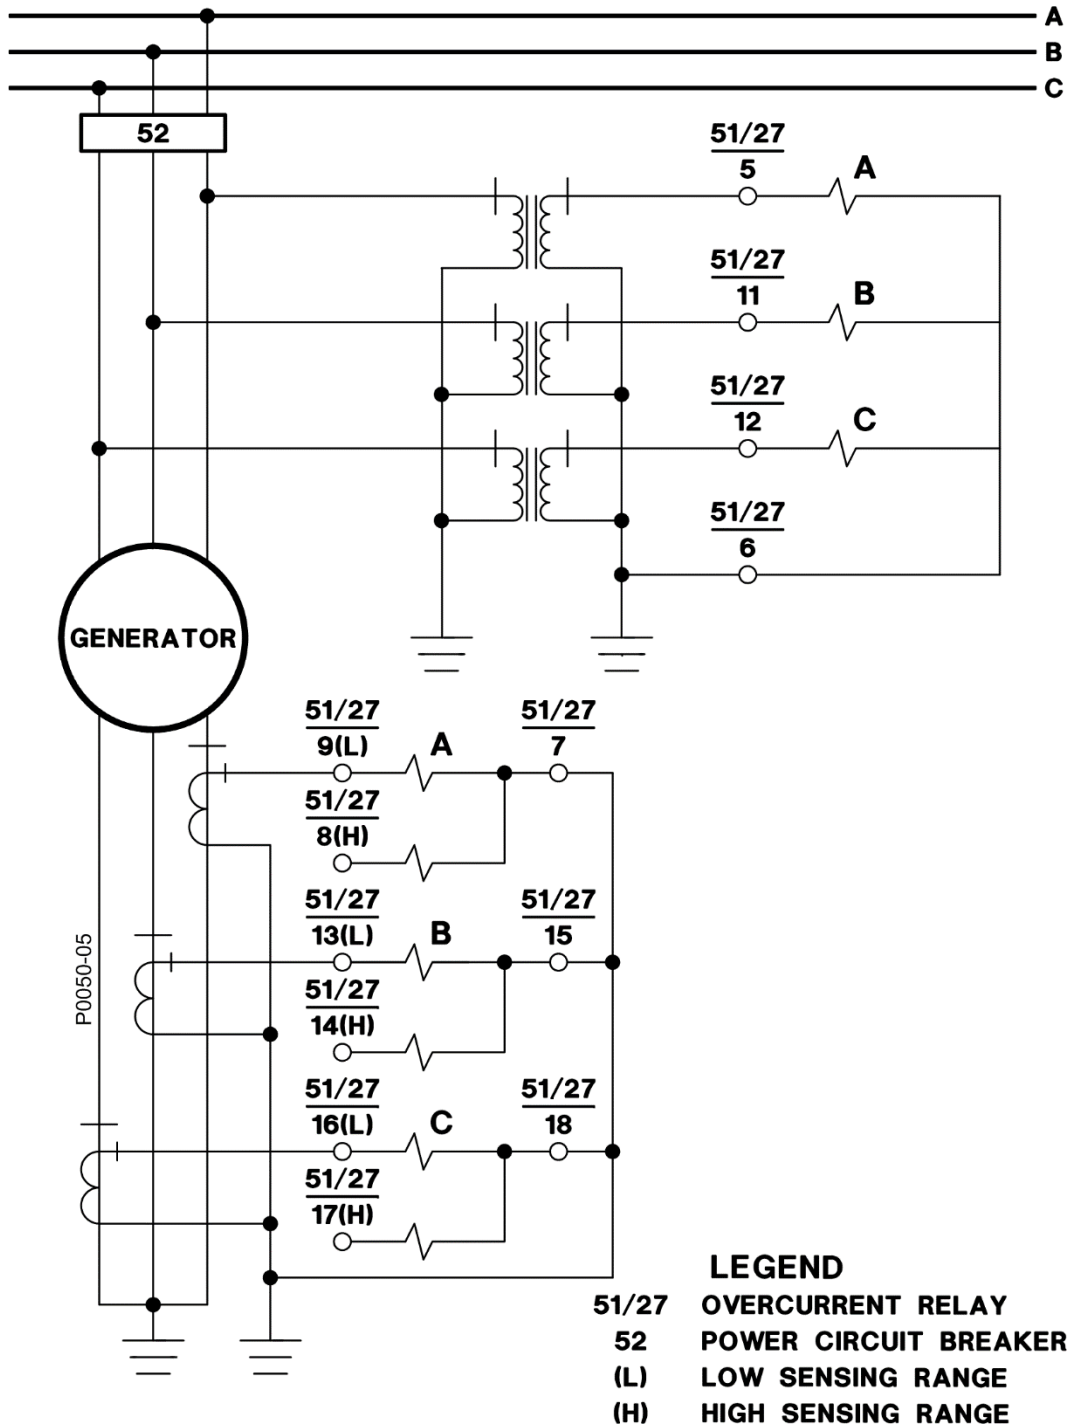

Figure 4-15. Typical Sensing External Connections, Sensing Input Type R or S
- Figure 4-15: Typical Sensing External Connections, Sensing Input Type R or S